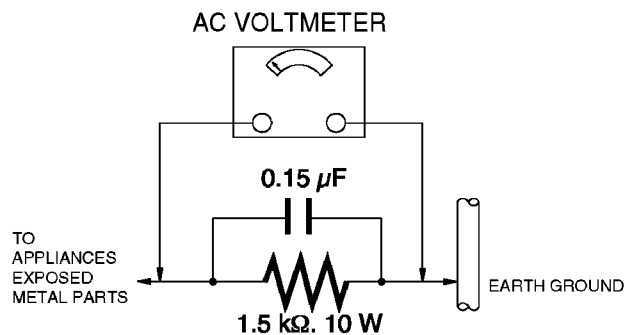

Figure 1
2. Connect a 1.5 k Ω , 10 W resistor, in parallel with a 0.15 μ F capacitor, between each exposed metallic part on the set and a good earth ground , as shown in Figure 1.